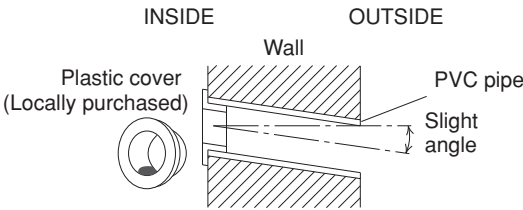

Fig. 12
- (6) Place the plastic cover over the end of the pipe (for indoor side only) and insert the pipe in the wall. (Fig. 12)